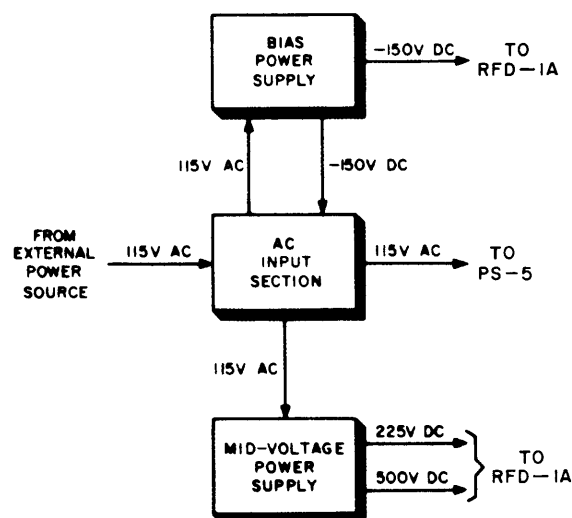

Figure 4-6. Functional Block Diagram PS-4A, Low Voltage Power Supply
(See figures 4-6 through 4-9.)
a. GENERAL (See figure 4-6). PS-4A consists of a bias power supply, an a-c input section, and a mid-voltage power supply. The bias and mid-voltage power supplies generate the operating voltages for RFD-1A Amplifier. The a-c input section distributes a-c voltage to the two power supplies and to the PS-5 High Voltage Power Supply unit through time delay and control circuits.